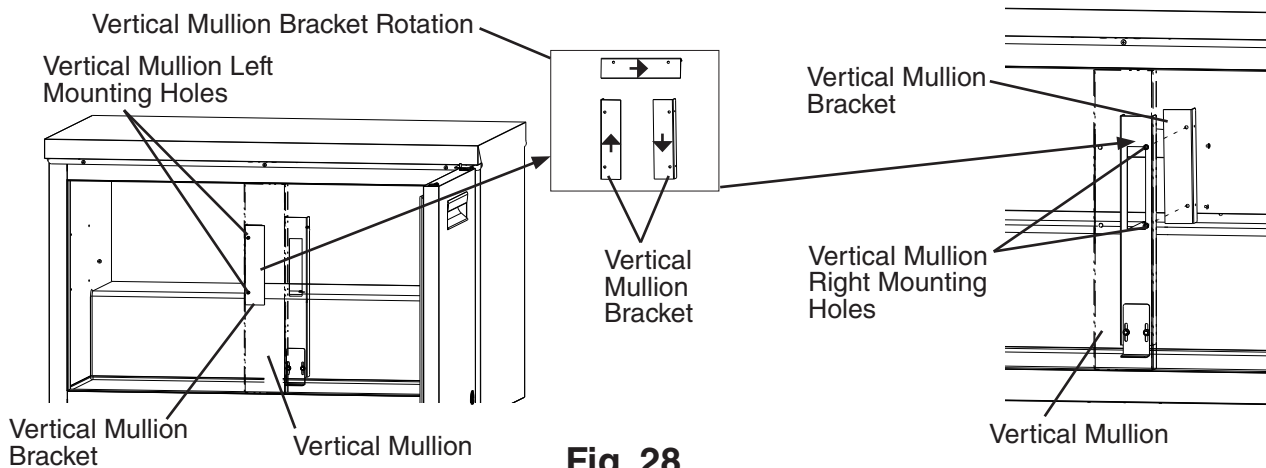

Fig. 28
- 7) Remove the vertical mullion bracket. Rotate 180 degrees and mount it in the vertical mullion right mounting holes. See Fig. 28.